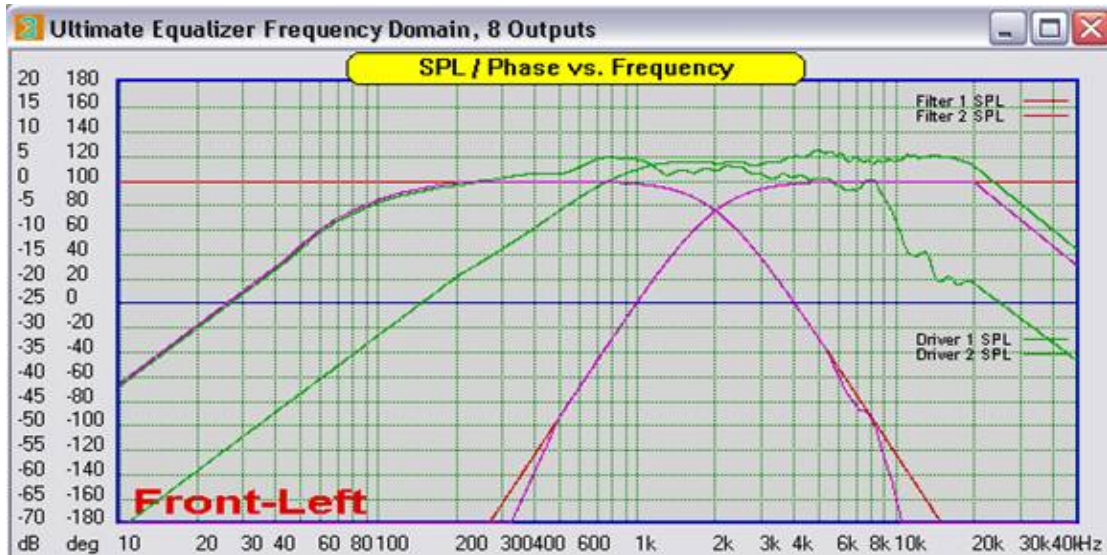

Figure 138. Plots of the selected high pass and low pass filter targets, driver SPL and corrected driver responses after changing the woofer F1 frequency.
- Clear the plots and re-plot the response for the Front Left speaker. The result for the example is shown in Figure 138. Notice how the corrected Loudspeaker Driver response of the woofer follows the measured SPL data below the woofer F1 frequency of 220 Hz. Also notice that both the woofer and tweeter correct response, shown in violet match the target filter curves exactly between the limits of F1 and F2 (220Hz and 5k Hz for the woofer, 500 Hz and 20k Hz for the tweeter).